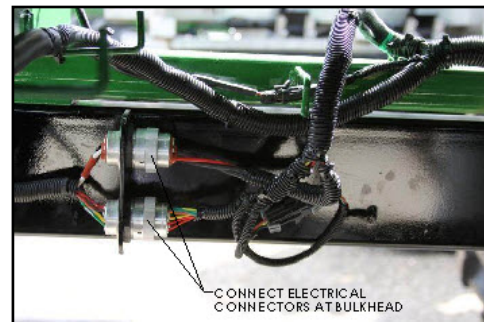

Figure 17 - Electrical Connection
1. Connect electrical connectors at bulkhead as shown in Figure 17.